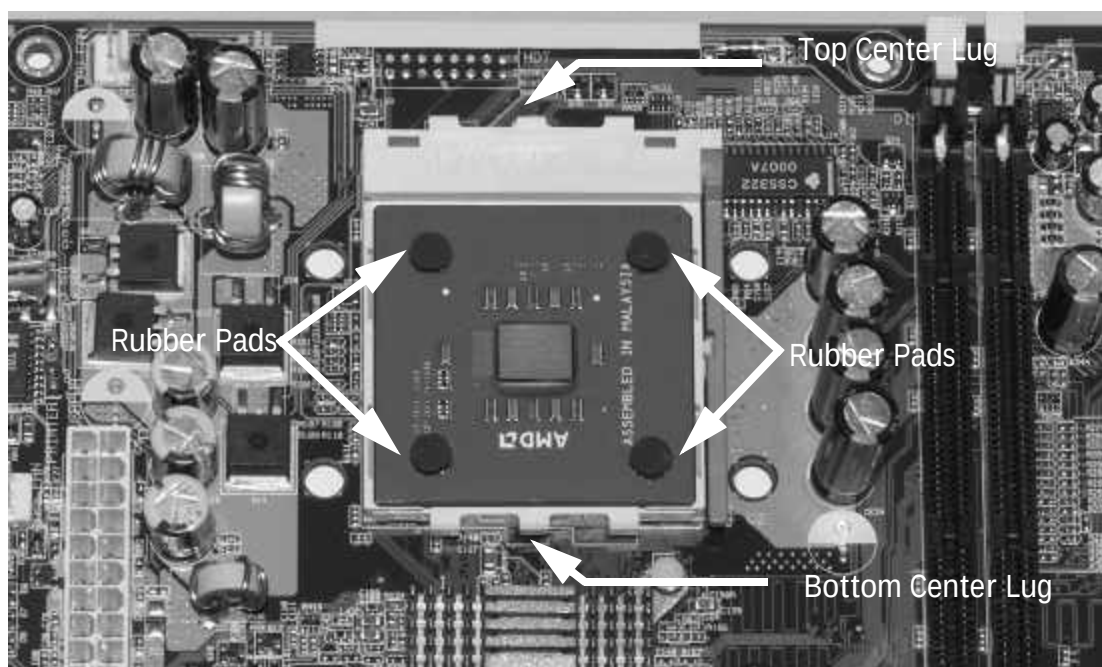

Figure 5. Processor Installed and the Lever Lowered
5. Figure 5 shows the processor installed and the release lever lowered to lock the processor in place. With the processor now properly installed, the heatsink and fan assembly can be attached.